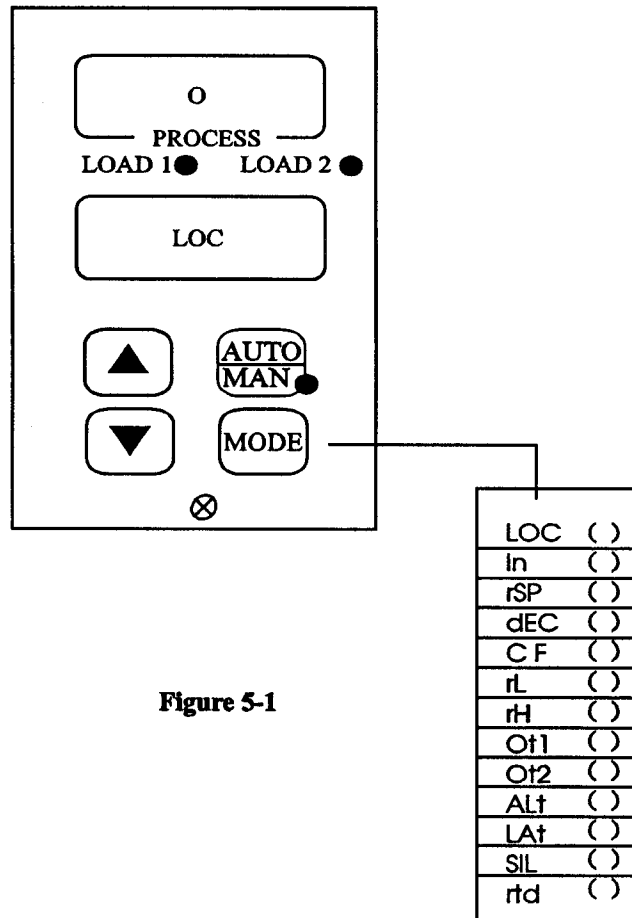

Figure 5-1
5.6 Calibration Offset (Refer to Figure 5-1)